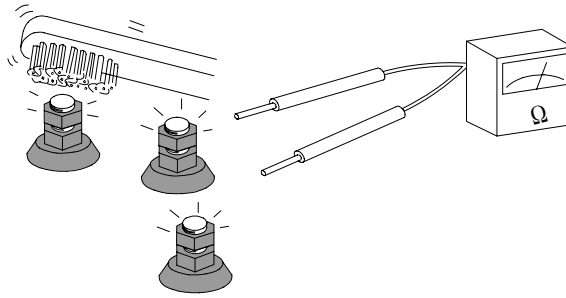

Fig.2-18 Winding Resistance Measuring Method
- (2) Before measuring the winding resistance, clean the terminals thoroughly. Otherwise, defective connections at the terminal part will lead to measurement errors. Repeat the measurement several times to confirm that the winding resistance is correctly measured. (Refer to Fig.2-18.)